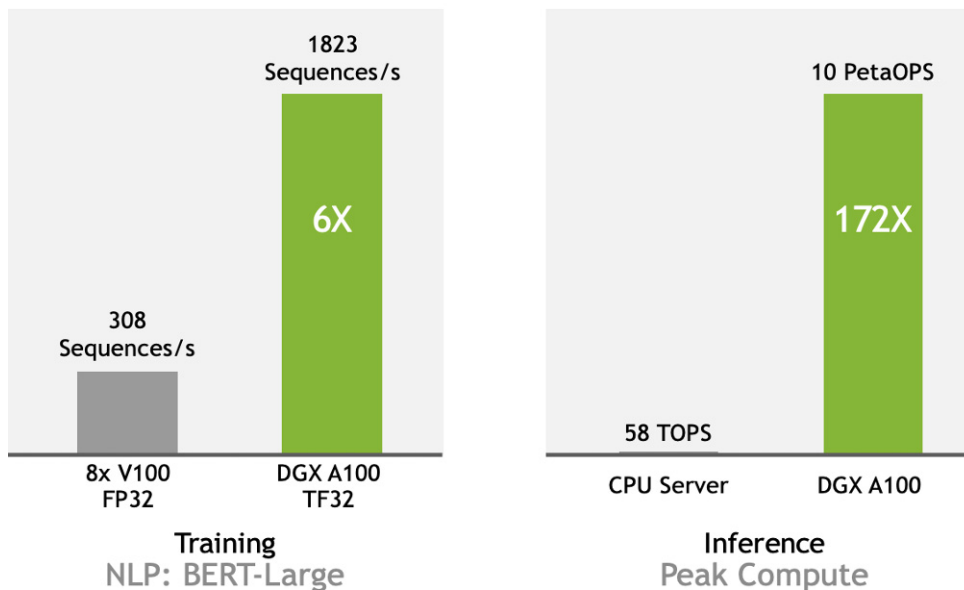

Figure 12. *DGX A100 delivers unprecedented AI performance for training and inference³*
Packed with innovative features and a balanced system design, the DGX A100 delivers unprecedented performance in Deep Learning Training and Inference. The graph in Figure 12 demonstrates the following performance results:
³. Refer to Details for Figure 12: DGX A100 AI Training and Inference Performance on page 20 for additional information.
13.2 Details for Figure 12: DGX A100 AI Training and Inference Performance